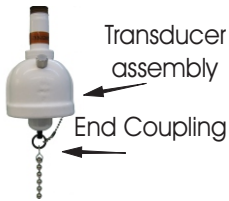

Figure 2
3. To connect the probe to the transducer, simply snap the free end of the chain on the top of the probe into the end coupling connected to the split ring located at the bottom of the transducer. (See **Figure 2**) The bead **MUST** snap in place or it is not seated correctly. Screw the transducer assembly onto the tank’s 2” pipe nipple. **When the tank is empty the probe should never touch the bottom of the tank. Refer to the QUICK START GUIDE included with the gauge before installation to know the correct measurements you need.**